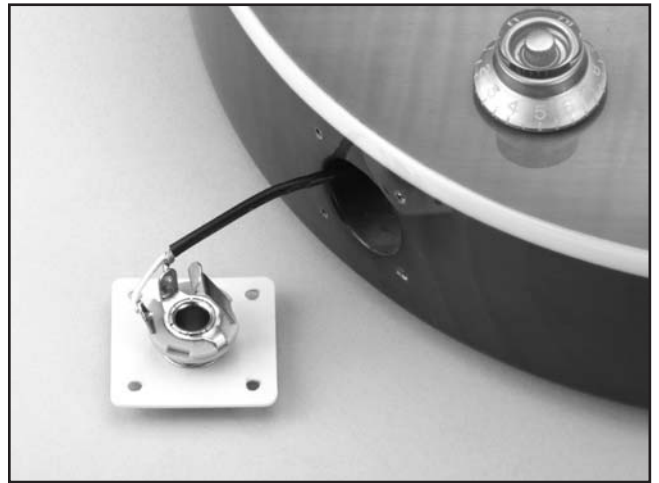

Figure 15. Jack plate.
1. Insert the audio jack into the hole in the jack plate, place the washer over the threads, and secure with the nut (see **Figure 15**).